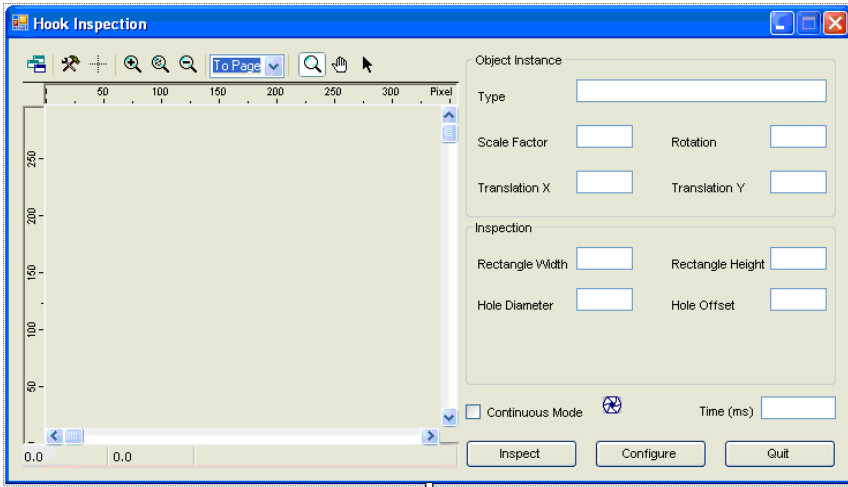

Figure 100 C# Form for Tutorial 4
1. On your application form, add two text boxes. Name the first one **DiameterText** and the second **OffsetText** and add appropriate labels. Set up your form as illustrated in Figure 100.